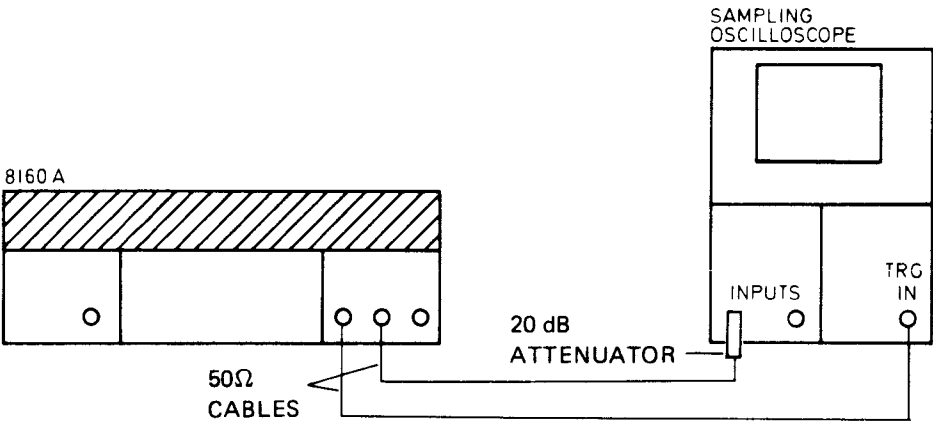

Figure 4-20. Pulse Aberration Test Set-up
1. Connect equipment as shown in fig. 4-20.